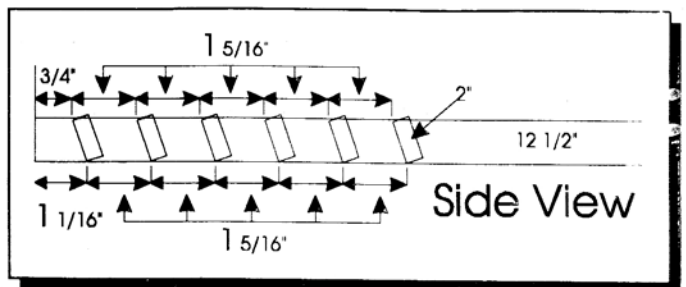

Figure 16- Ladder
- a. Glue two 12 1/2" and six 2" pieces together as shown in Figure 16. See also back view on label. The 2nd Floor will act as the top (7th) step.